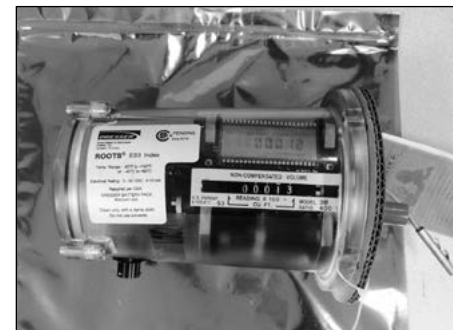

Figure 10.5 - ES3 removed from static bag
- B. Remove the ES3 Electronic TC from the static bag, as shown in Figure 10.5.